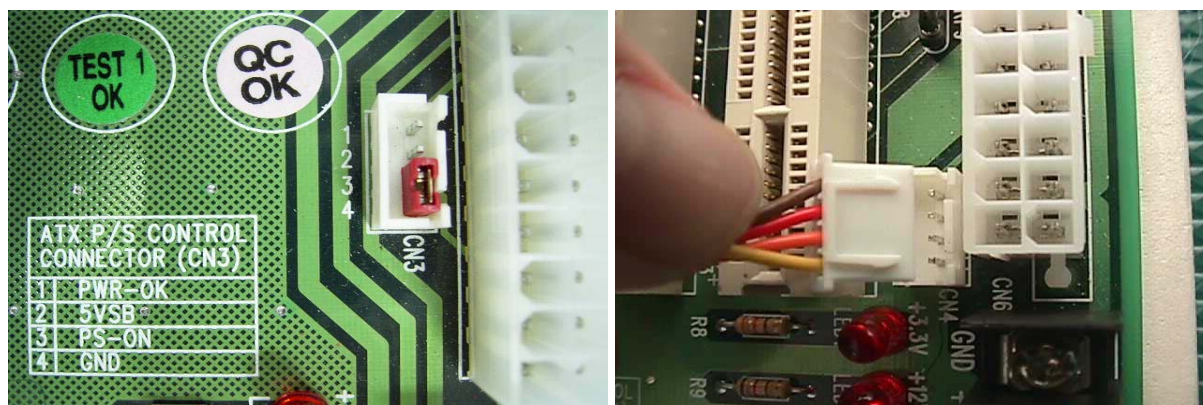

Figure 5-2
Step 1: If you want to use ATX mode, please removed the jumper on pin 3 (PS-ON) and pin 4 (GND) of backplane ATX P/S control connector. And connect 4 pins power cable to the 5VSB Header For ATX. (Figure 5-2) Basically, our backplane products have the default setting to set the jumper on the AT mode.
If the ATX power supply has a switch, such as ORION-330ATX-12V, do not remove the jumper of Backplane connector in the Figure 5-2, and use the power supply switch as the system power on switch.
In all cases, users may apply a 2-pin AT (on/off) switch over pin-3 and pin-4 of the Backplane connector in the Figure 5-2. However, power supply switch needs to be moved to “on”, if there is one.